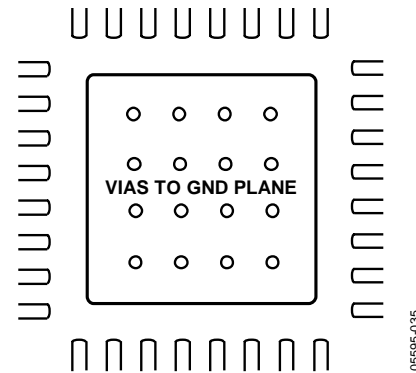

Figure 27. PCB Land for Attaching Exposed Paddle
**The exposed paddle of the AD9513 package must be soldered down.** The AD9513 must dissipate heat through its exposed paddle. The PCB acts as a heat sink for the AD9513. The PCB attachment must provide a good thermal path to a larger heat dissipation area, such as a ground plane on the PCB. This requires a grid of vias from the top layer down to the ground plane (see Figure 27). The AD9513 evaluation board (AD9513/PCB) provides a good example of how the part should be attached to the PCB.